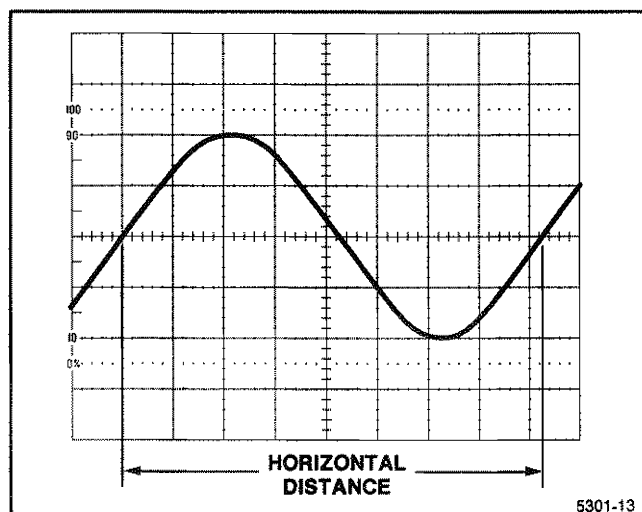

Figure 6-5. Time duration.
5. Position the display to place the time-measurement points on the center horizontal graticule line (see Figure 6-5).
EXAMPLE: The distance between the time-measurement points is 8.3 divisions (see Figure 6-5), and the SEC/DIV switch is set to 2 ms. The X10 Magnifier switch is pushed in (X1 magnification).
EXAMPLE: The signal in Figure 6-5 has a time duration of 16.6 ms.